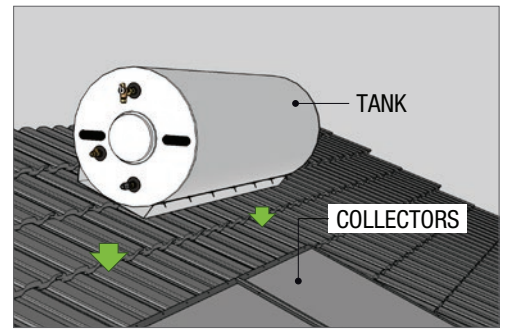

Fig 10
3. Carefully lift the storage tank into position and centralise it along the top edge of the collectors (Fig 10)